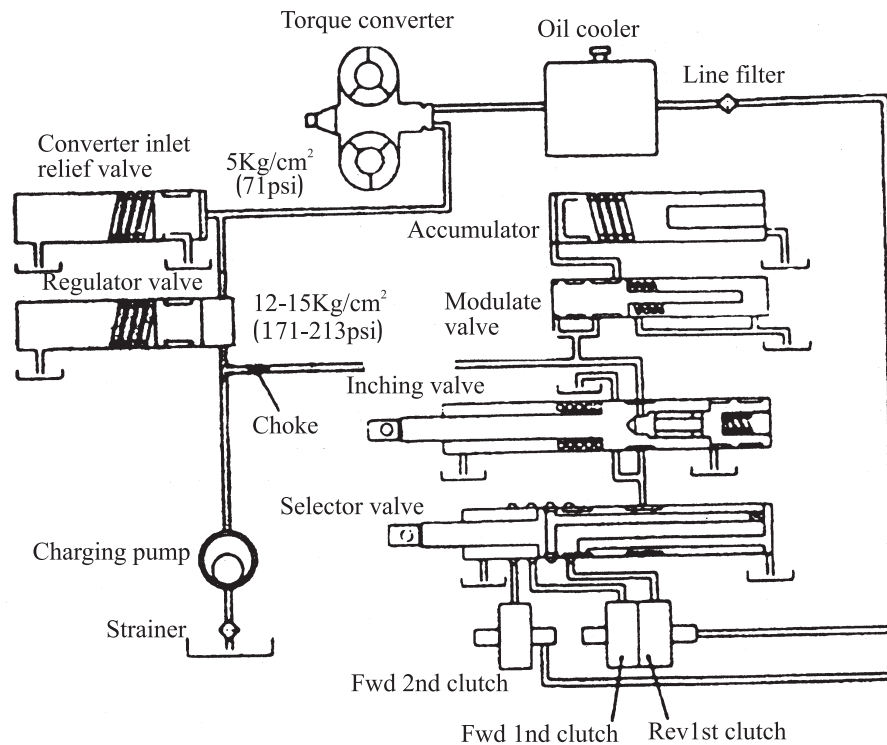

Fig. 3-6 Tor-con hydraulic system
3.6 Hydraulic circulation system(See fig. 3-6)